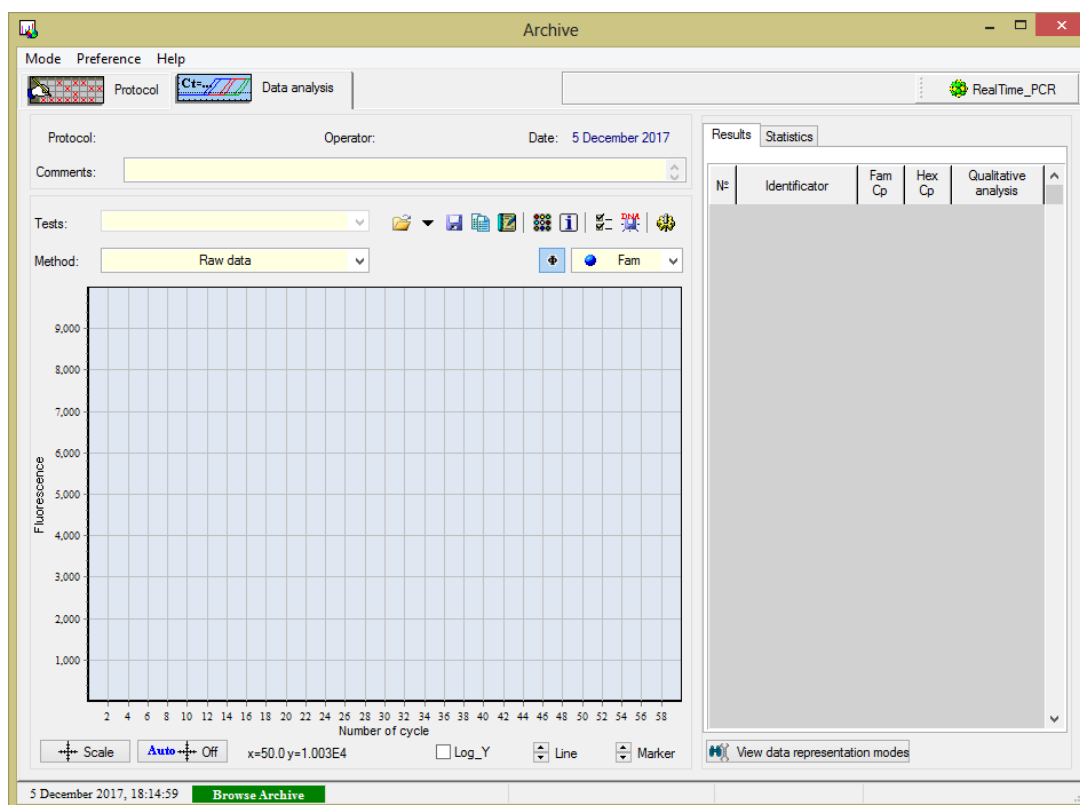

Fig.63 The Archive mode window
4. Double-click any saved RUN file on the computer (file type *.r48, *.r96, *.384). In this case, the RUN file with the results of the optical measurements will be opened immediately (Fig.63).